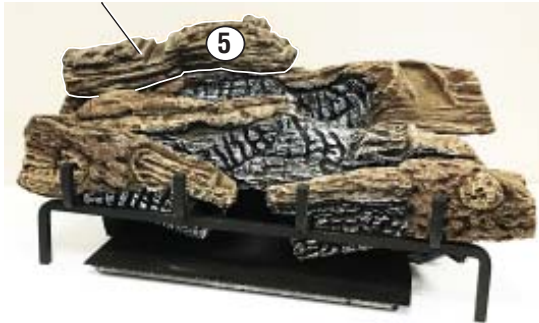

Figure 45 - Installing Log # 5
- Place the left top back log (#5) on top of the rear log. Match the rectangular projection on top of the left side of the rear log with the rectangular hole on the bottom of the left top back log. Match the metal pin on the top of the rear log with the round hole in the bottom of the left top back log. See **Figure 45**.